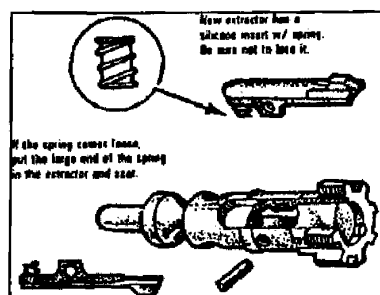

Figure 071-311-2025-25. Placing the extractor and spring
c. Push the extractor pin in (figure 071-311-2025-26).